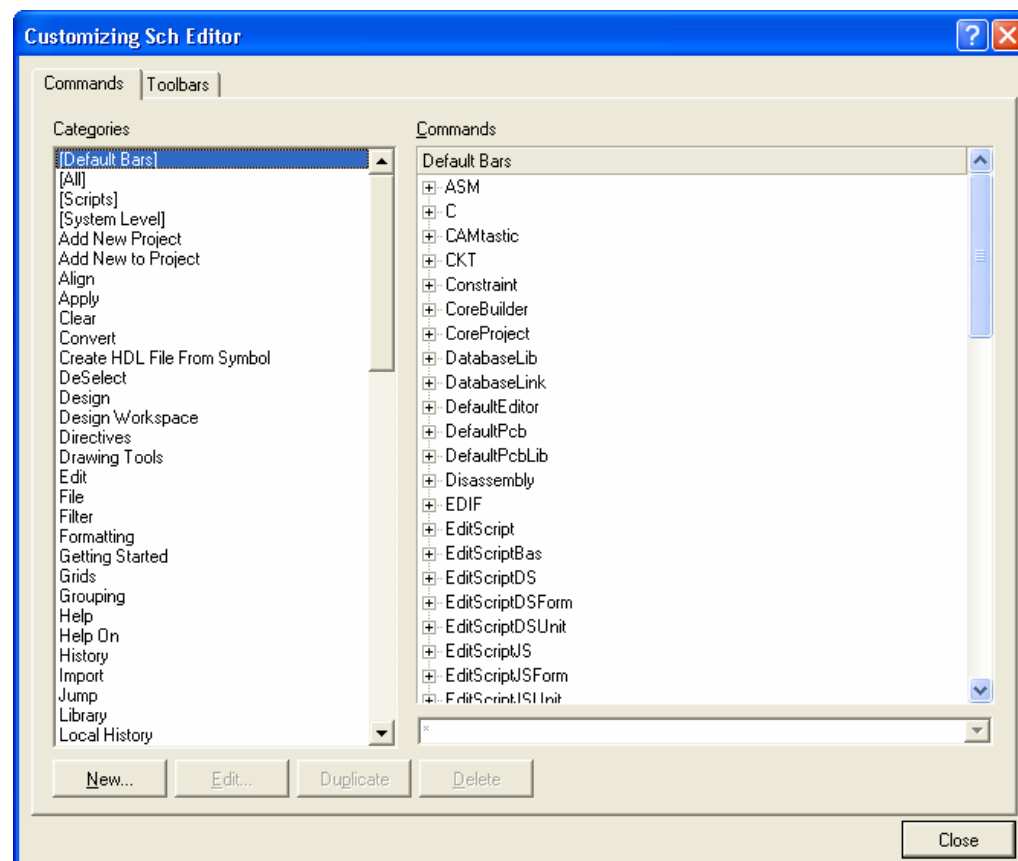

Figure 1. Toolbar Properties dialog
- Figure 1 shows the *Customizing Schematic Editor* dialog. When you select **Customize** with a schematic as the active document, this dialog opens ready to customize the resources for that editor. Customization options include adding, deleting or re-ordering menu entries and toolbar buttons, and adding new shortcut key definitions.